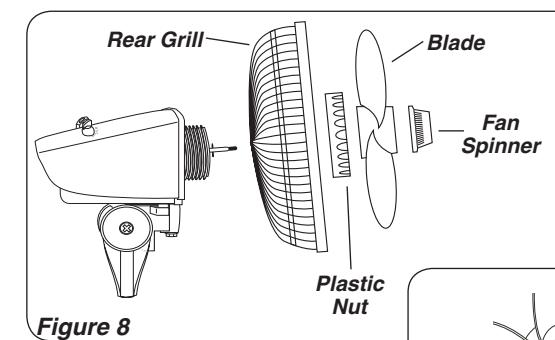

Figure 8
3. Fully seat *Rear Grill* and secure with *Plastic Nut* turning Clockwise. Slide *Blade* onto *Motor Shaft*. (*Figure 8*) Align *Groove* on blade hub with *Pin* on motor shaft. (*Figure 8A*)